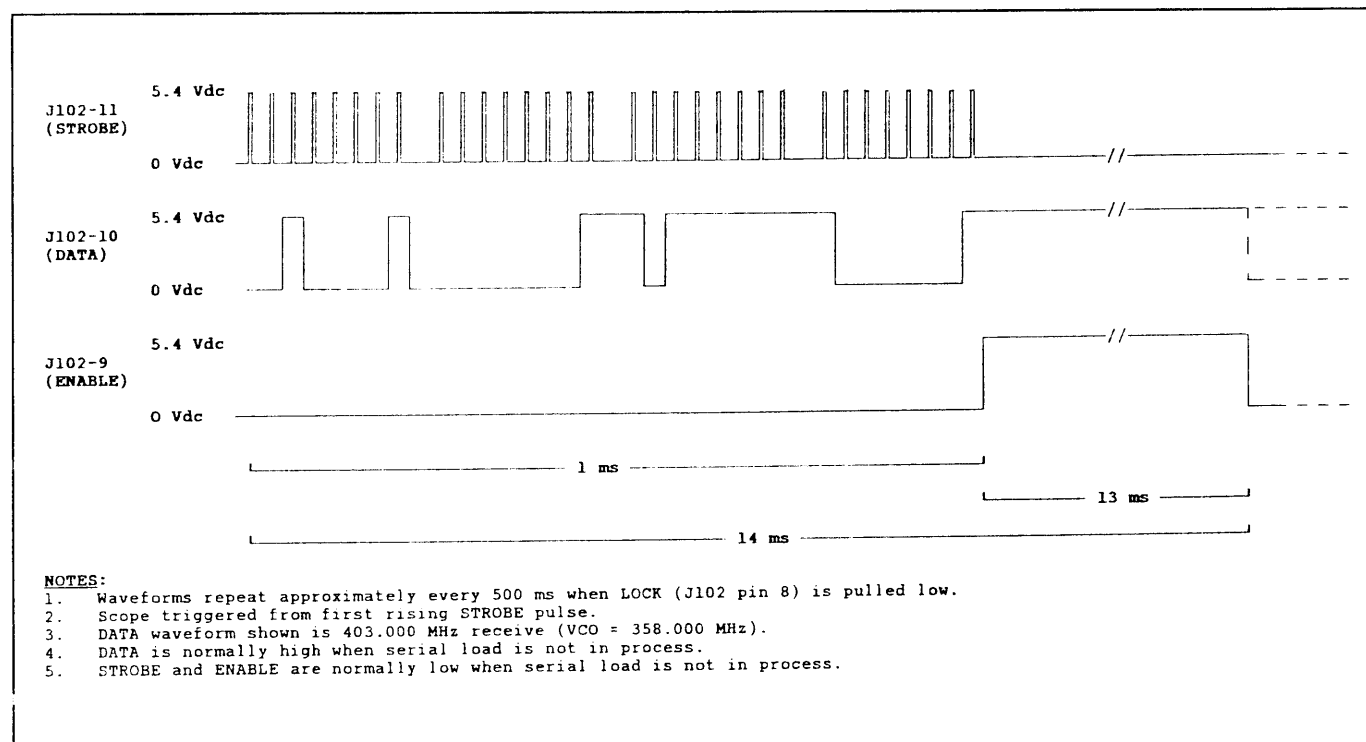

Figure 8 - STROBE, DATA and ENABLE Pulses
2. Monitor STROBE, DATA and ENABLE (on J102 pins 11, 10 and 9 respectively) for pulse activity when a channel is changed. See Figure 8. If these signals are not present, suspect a defective I/O Microcontroller.
2. Module A5 also influences switching time. Insure the ENABLE pulse is present at A5 pin 4. See Figure 8 for details.
3. Monitor STROBE, DATA and ENABLE (on J102/P2 pins 11, 10 and 9 respectively) for pulse activity when a channel is changed. See Figure 8. If these signals are not present, suspect a defective I/O Microcontroller. A failure of only one signal points to an open series resistor on the Control Board or a defective output from U18. NOTE: Temporarily connect LOCK DETECT (J102/P2 pin 8) to ground to view these waveforms.